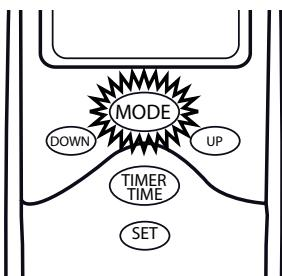
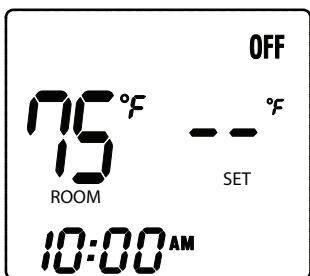

Fig. 3 Mode Button
Fig. 4 OFF Mode
To operate the transmitter, press and release the MODE button (Fig. 3) until the LCD screen reads OFF in the display (Fig. 4).
**Step 3:** Press the MODE button a third time to turn the appliance back OFF again as shown in Fig. 4.